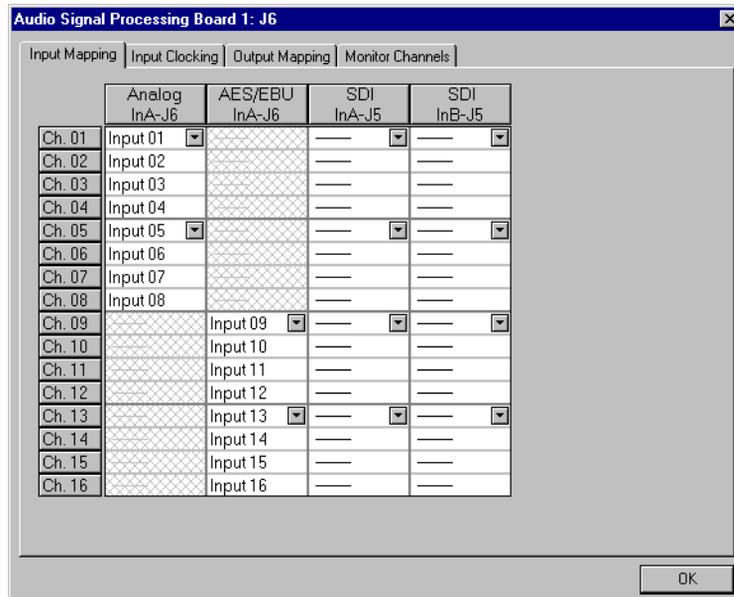
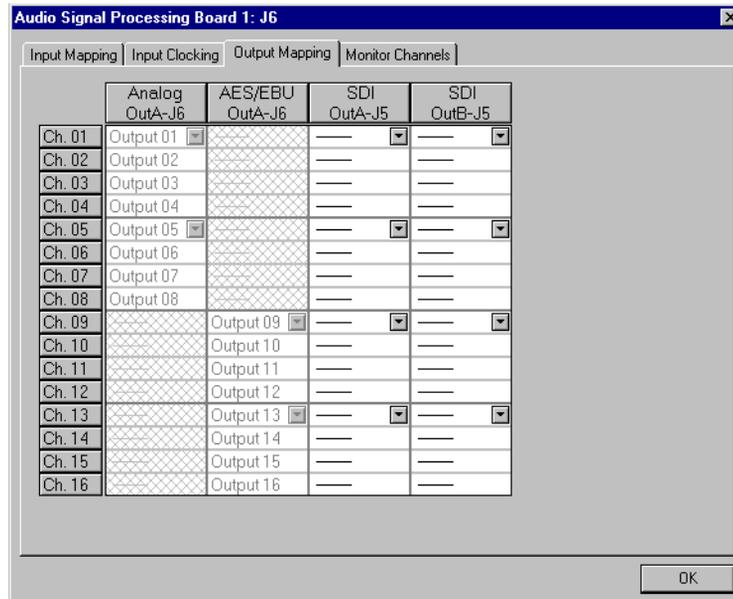

Figure 40. Audio Configuration dialog box, Input Mapping tab
Figure 41. Audio Configuration dialog box, Output Mapping tab
The Audio Configuration dialog box shown in Figure 40 allows you to configure input and output channels, input clocking, audio quality and monitor channels.
The Input Mapping tab is used for mapping input sources to Profile channels, while the Output Mapping tab is used for mapping Profile channels to output destinations. For example, you can map Profile Audio Chassis (PAC) input sources and serial digital audio input sources. Figure 40 and Figure 41 illustrate a sample configuration: a Profile unit with an audio signal processing board, a PAC 208 chassis (with A/D and D/A convertors and connectors for eight channels), and two serial digital cards providing eight analog audio channels, eight digital audio channels, and four video channels with 16 embedded audio channels each.
The columns represent the sources to the sixteen channels on the input side and the destinations from the sixteen channels on the output side. The examples in Figure 40 and Figure 41 illustrate the system with a PAC 208 chassis allowing the selection of analog channels 1–8 and digital channels 9–16. A PAC 216 chassis, however, provides sixteen analog inputs and outputs or sixteen digital inputs and outputs. For the PAC 208, rows 9 through 16 of the analog channel column, and rows 1 through 8 of the AES/EBU channel column, are cross-hatched to indicate that these channels are not selectable. In Figure 41, in the column labeled AES/EBU, rows 9–16 appear dimmed, indicating that this audio type is always mapped and cannot be unmapped. Attempting to remap this section results in an error message.
The number of columns in the mapping grid depends on the number of possible input or output audio types that may be mapped to or from the disk recorder channels. The grid is used for selecting which of the possible input or output audio sources and destinations to map to the channels. Audio channels are mapped in groups of four channels only, and the four audio channels are always mapped to consecutive disk channels. For example, analog channels 1–4 (Input 01–Input 04) in the first column of Figure 40 are mapped to the first four disk
recorder channels (Ch. 01–Ch. 04), while digital channels 9–12 (Input 09–Input 12) in Figure 41 are mapped to another four disk recorder channels (Ch. 09– Ch. 12).
1. Choose **Option | Audio Configuration Board 1 or 2** or click an ASPB Configuration button. The Audio Configuration dialog box appears (Figure 40).
1. Choose **Option | Audio Configuration Board 1 or 2** or click an ASPB Configuration button. The Audio Configuration dialog box appears (Figure 41).